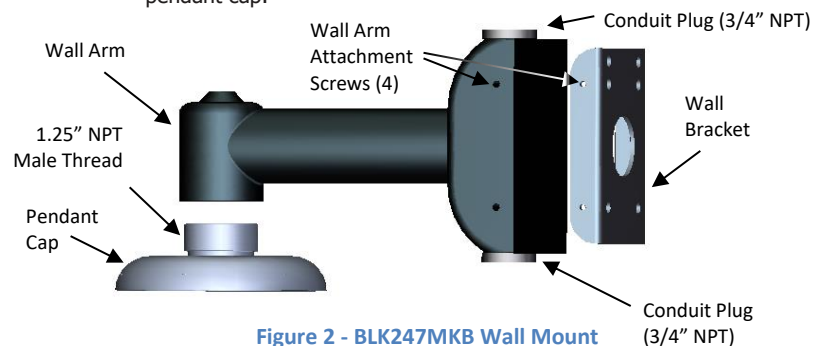

Figure 2 - BLK247MKB Wall Mount
4. Align the three holes indicated in Figure 1 with the desired holes in the pendant cap (see Figure 2). Note the pendant cap can be rotated (loosened) up to 60° without compromising its seals to achieve the desired angle.
10. Remove conduit plug(s) (see Figure 2) and install 3/4" NPT cordgrip(s) or conduit fitting(s).